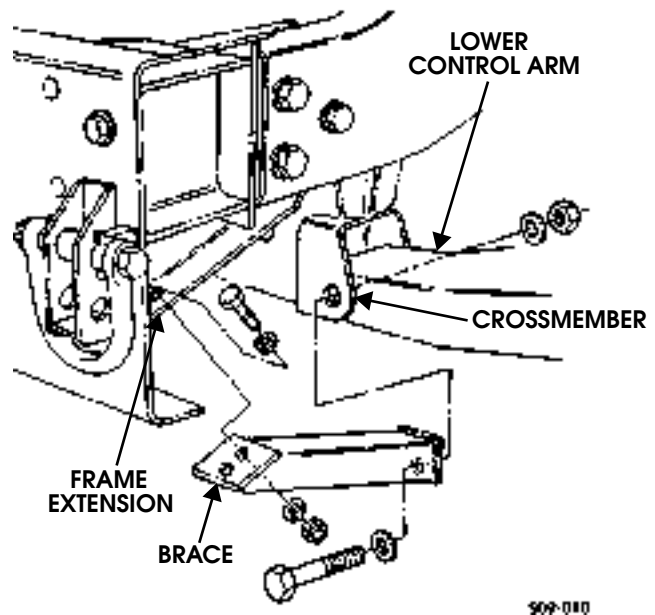

Figure 9-124: Front Suspension Brace Replacement for Vehicles With Winch
1. Remove two locknuts, washers, bolts, and washers securing front suspension brace to frame extension (Figure 9-124).
1. Install brace on crossmember and lower control arm with washer, bolt, washer, and locknut. Do not tighten locknut (Figure 9-124).